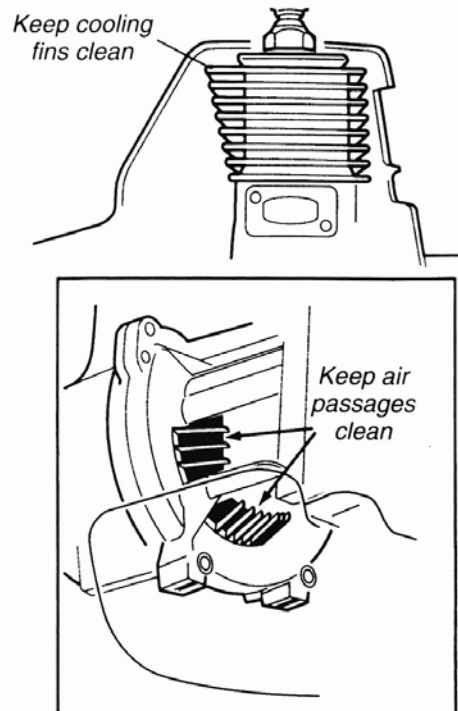

Figure 17
2. Slide the ignition switch to the “0” or STOP position. See Figure 17.
- Remove all dirt and debris from the engine, check the cooling fins and air cleaner for clogging, and clean as necessary. See Figure 17.